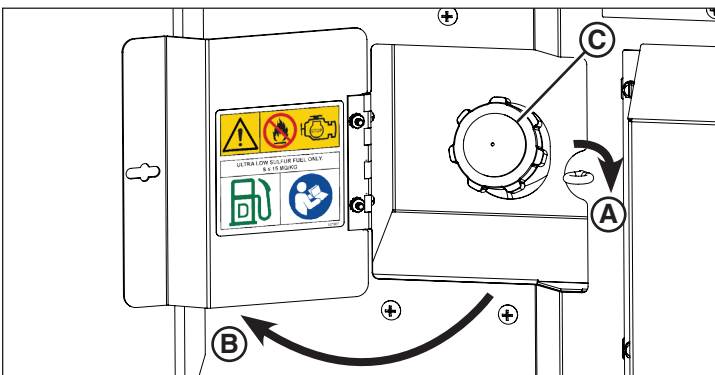

Figure 16
1. Unlock and open the fuel door (A, B, Figure 16) on the left side of the unit.
2. Remove the fuel cap (C, Figure 16) and add fuel to the tank. See **General Fuel Information** in the **Maintenance** section for fuel recommendations.
1. Turn the ignition switch counterclockwise to the OFF position (F, Figure 16). Close and secure the engine panel door. (The engine panel door can be padlocked for added security.)